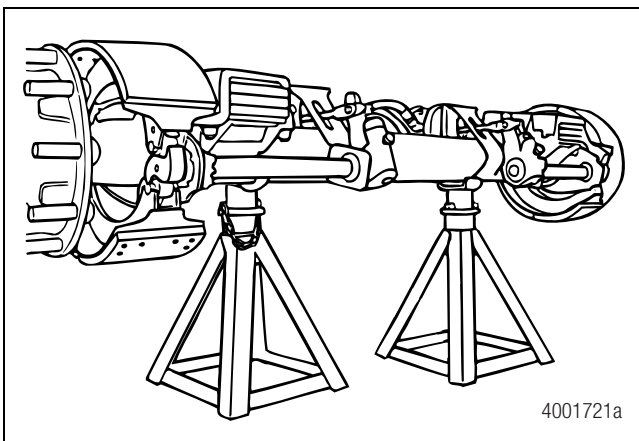

Figure 4.9
2. Use a jack to raise the trailer until the tires are off the ground. Place safety stands under the trailer frame or axles. Figure 4.9.